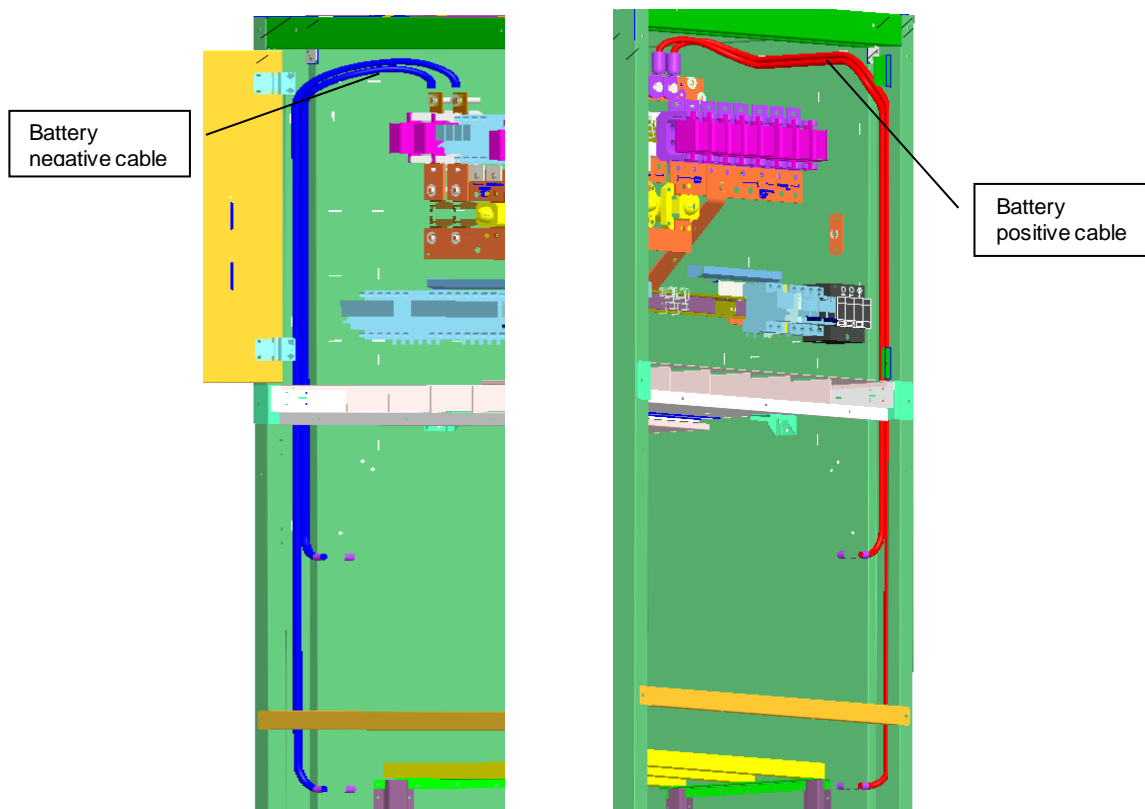

Figure 2-6 Battery cable wiring path of NetSure 731 C62-X2
3. The wiring path of battery cable configured in NetSure 731 C62-X2 is shown in Figure 2-6.